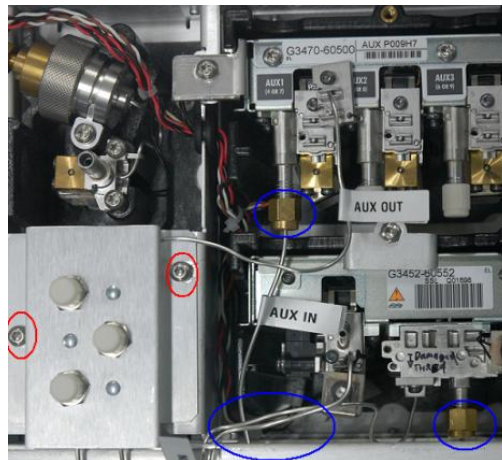

Figure 11 Installing the Bulkhead assembly
4. Attach the tubing block to the manifold (See Figure 11)